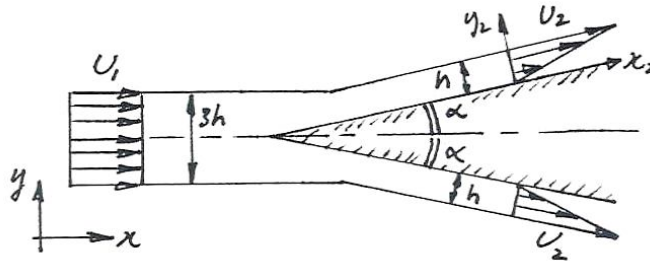

Figure P3.20
3.20 A steady water jet of density ρ is split in half as it encounters a wedge of included angle 2α and constant width w , as shown in Figure P3.20. For the velocity distributions given in the diagram, find the force required to hold the wedge in place in terms of U_1 , h , α , and the density of water ρ , assuming that the viscous effects and the weight of the water